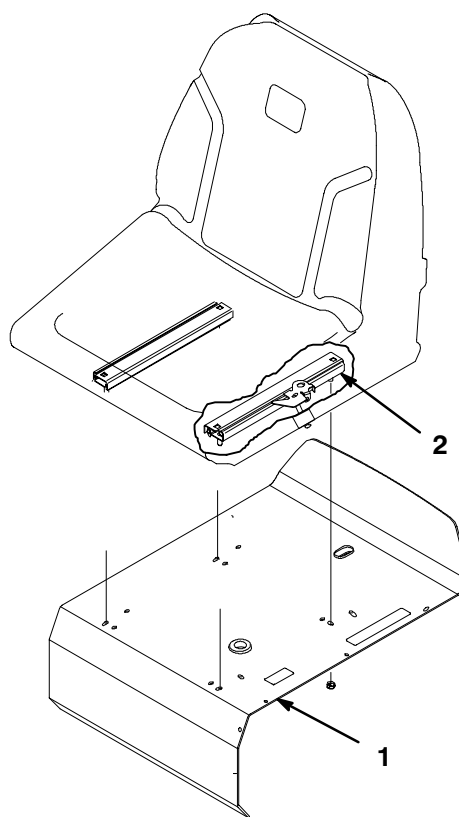

Figure 2
- Secure the seat slides to the seat support with (4) 5/16-18 locknuts supplied in loose parts (Fig. 2).